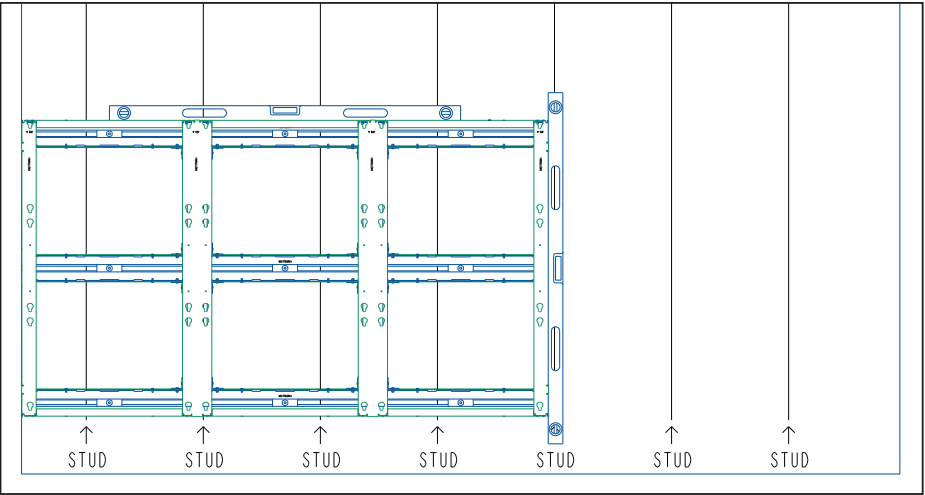

Figure 4: Position Frame on Wall
4. Mark the location for the perimeter of the frame on the wall. Use this mark to position the first frame. Hold the frame in place on the wall and use a 4' digital level on the top and sides of the frame while positioning it. Refer to **Figure 4**.